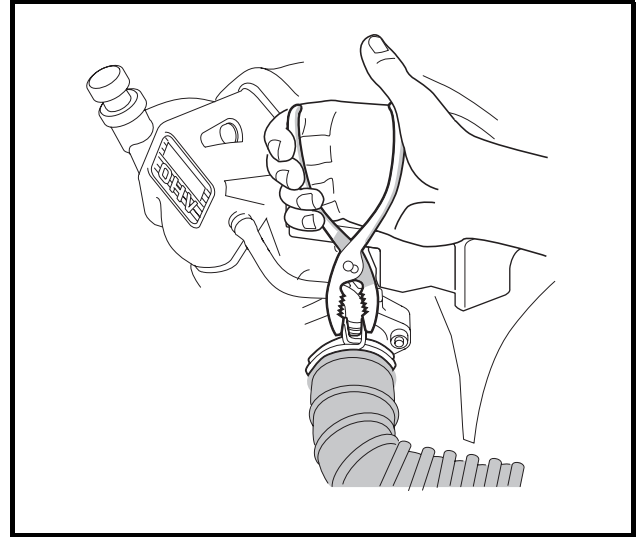

Figure 18-51 Air Intake Hose
28. Connect air intake hose to carburetor and secure hose clamp (**Figure 18-51, Page 18-18**).